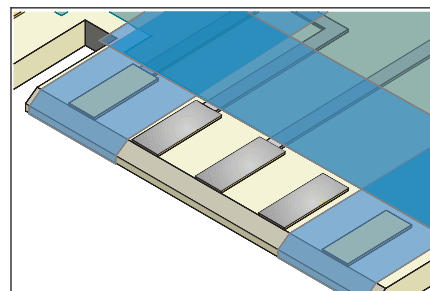

Figure 1 Apply tape.
2. Apply plating tape to the printed wiring board surface surrounding the area to be reworked. (See Figure 1.) The plating tape will protect adjacent components and the printed wiring board surface from unwanted exposure to stripping and plating solutions.